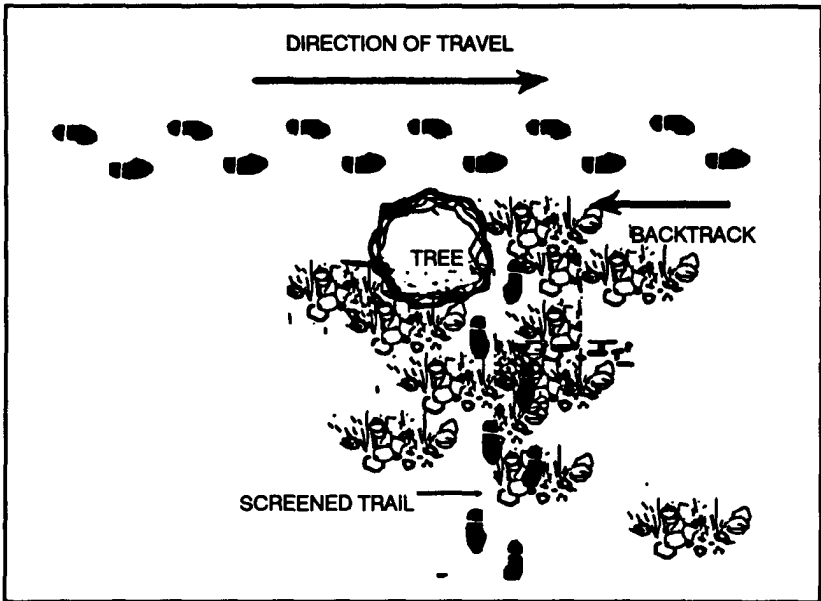

Figure 8-7. Large tree.
b. **Large Tree** A good deception tactic is to change directions at large trees (Figure 8-7). To do this, the sniper moves in any given direction and walks past a large tree (12 inches wide or larger) from 5 to 10 paces. He carefully walks backward to the forward side of the tree and makes a 90-degree change in the direction of travel, passing the tree on its forward side. This technique uses the tree as a screen to hide the new trail from the pursuing tracker.